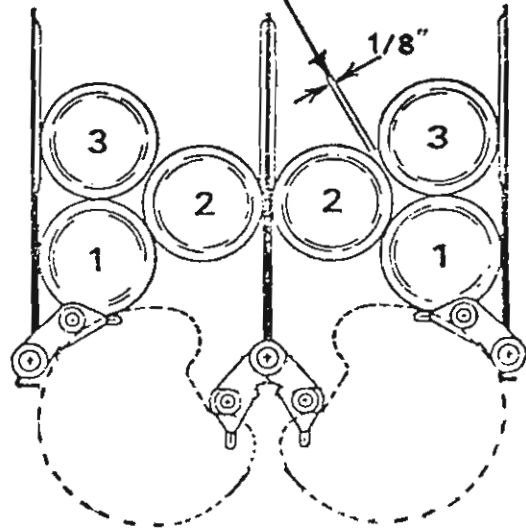

FIGURE 19
2. LOAD FIRST THREE (3) BOTTLES
- d. Load bottles 2 and 3 as shown. (Fig.19)
- a. Make check with only three (3) bottles loaded in the column.